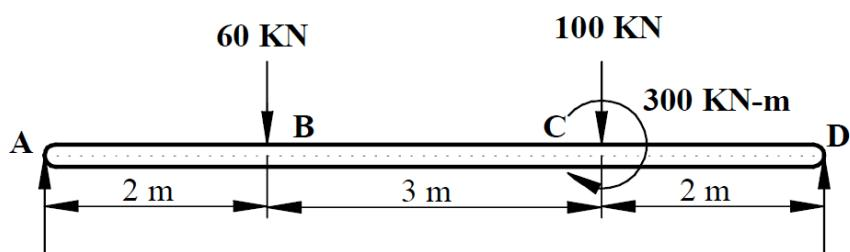

fig3b
b) Draw the shear force and bending moment diagrams for a simply supported beam subjected to the loads as shown in fig3b. Also find the location of point of contraflexure.